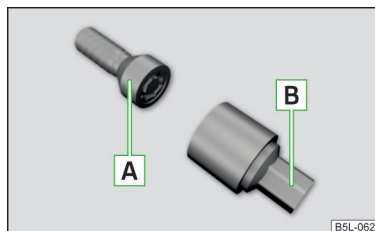

Fig. 330
The anti-theft wheel bolts protect the wheels from theft. The upper section  » Fig. 330 must be used to **loosen/tighten** these.
- Push the wheel wrench onto the wheel bolt to the stop. Use the associated upper section for the anti-theft wheel bolts » Fig. 330 on page 286.